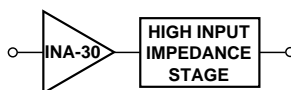

Figure 10. INA-30311 Driving a High Input Impedance Stage.
- For receiver IF amplifier applications up to several hundred MHz, the relatively higher output impedance level of the INA-30311 may be used to advantage when interfacing directly with devices having higher than $50\ \Omega$ input impedances, such as certain signal processing or mixed signal ICs. This application is shown in Figure 10.